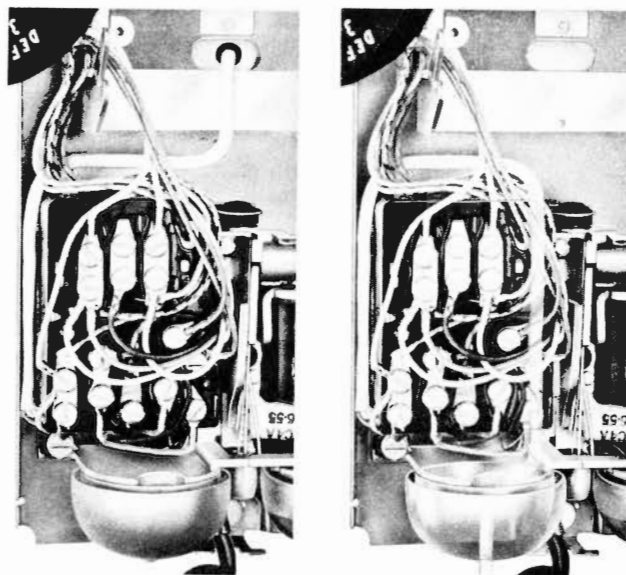

Fig. 19 — Inside Wire Terminated in 554 Wall-Type Telephone Set
7.04 Concealed wiring may enter 354 (Fig. 18) and 554 (Fig. 19) wall-type telephone sets through the opening provided in metal base.